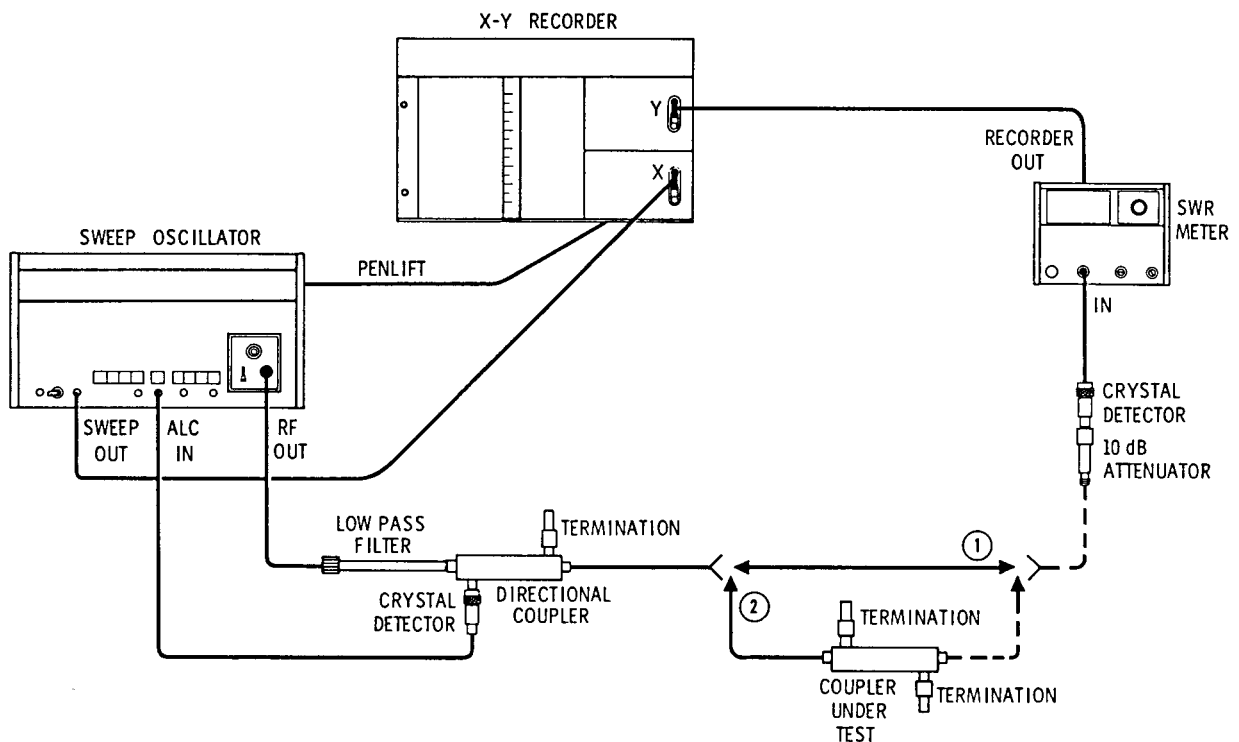

Figure 13 Insertion Loss Test Setup
To test a 775D use another good 775D as the directional coupler in Figure 13.
Description Refer to Figure 13 for test setup and Table 2 for test equipment.
1. Connect the equipment as at (1) in **Figure 13**.
- a. Connect the coupler under test as shown at (2) in **Figure 13**